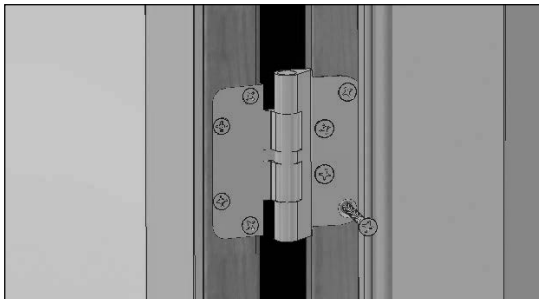

FIG. 13
- L) Apply the supplied #10 x 2-1/4" screws through each hinge, securing the hinges and frame to the rough opening. Additional shims are required behind each hinge. (Fig. 13)